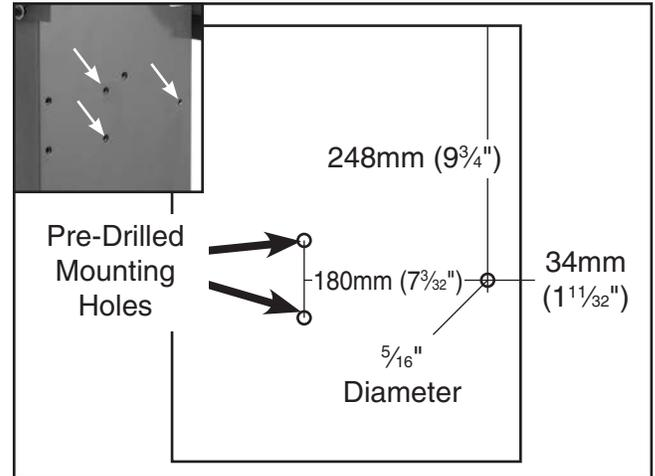

Figure 5. Stand mounting hole.
- Temporarily bolt the long support bracket into the two holes indicated in **Figure 5** and use a center punch to mark the location of the third hole.